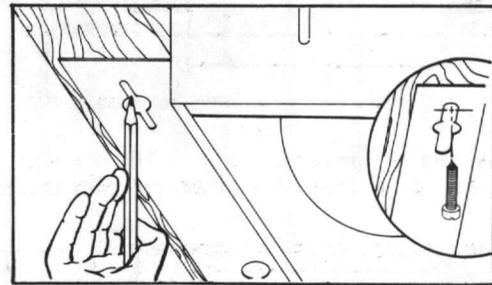

Figure 2
2. **Trace Keyhole Slots** - Hold unit against frame and trace keyhole slots in mounting brackets onto frame. Start screws provided in same end of all traced keyhole openings. Leave about 3/8" of screws projecting from frame. (Fig. 2)